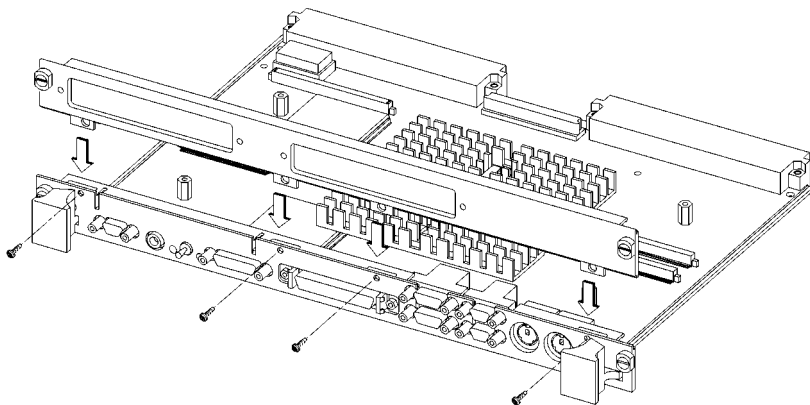

Figure 5-13 **Front Panel Extension Fasteners**
- 1 Remove the M2.5X6 screws which hold the panel extension to the front panel as shown in Figure 5-13.